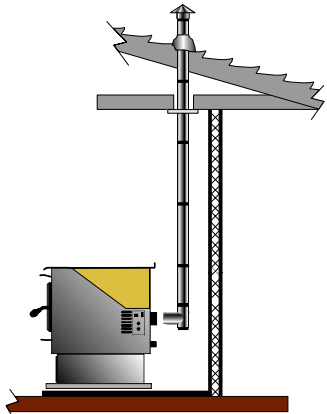

Figure 17
VERTICAL INSTALLATIONS: (Figures 17 - 22)
-  **VERTICAL, THROUGH THE CEILING**, through another room, space or attic, then through the roof, terminating with a rain cap. Figure 17.